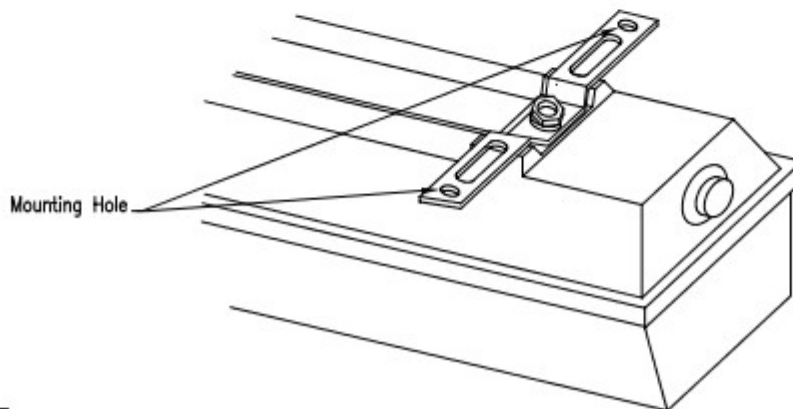

Figure 2
5. SECURE FIXTURE TO SUPPORT STRUCTURE AT THE MOUNTING HOLES (2) ON THE MOUNTING BRACKET. SEE FIGURE 2.